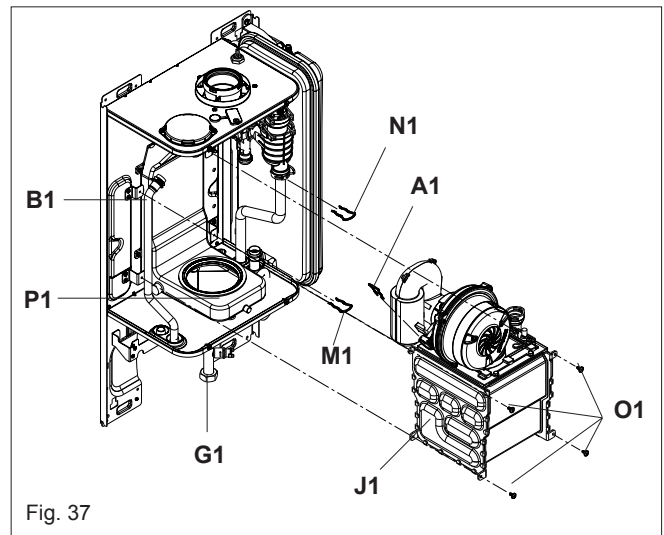

Fig. 37
6.16 MAIN HEAT EXCHANGER (fig. 37)